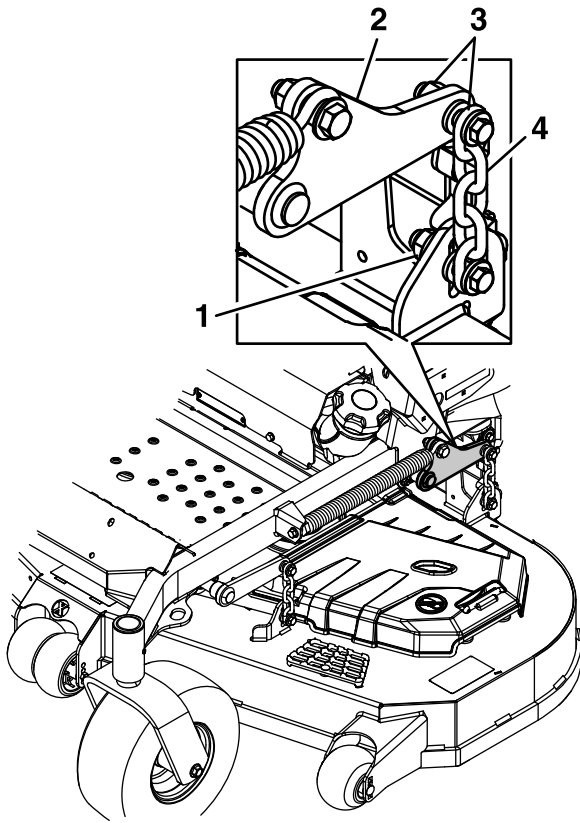

Figure 32
12. Loosen the leveling adjust locking nuts (item 1 Figure 32) on all four corners so that the deck is sitting securely on all four blocks. Make sure that the slack is removed from the deck hangers and the deck lift foot lever is pushed back against the stop, then tighten the four leveling adjust locking nuts.